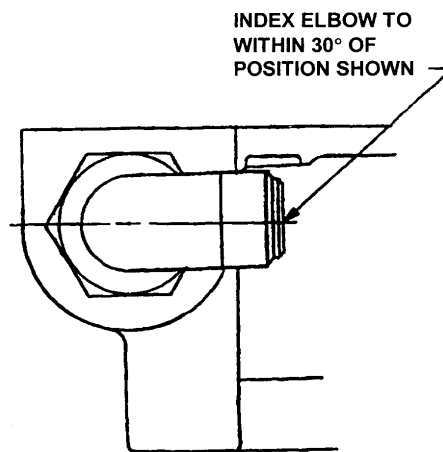

Figure 103. Cooler Line Elbow Index.
12. Tighten nut on elbow (2) against Right Hand Cover Assembly (4).
13. X200-4 and X200-4A, torque elbow (2) to 50-60 lb-ft (68-81 N·m). Index elbow to 30° of position shown in Figure 103, this Work Package.